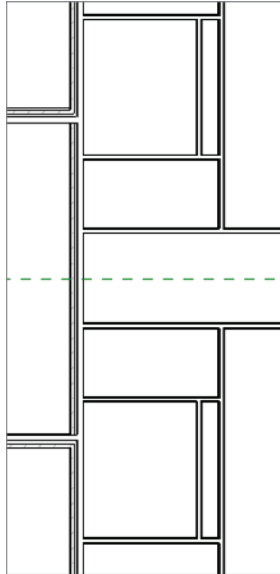

FIGURE 2.38 Both the men's and women's lavatories
3. After you draw in the lavatory walls, mirror the walls to the other side of the building, as shown in Figure 2.38.